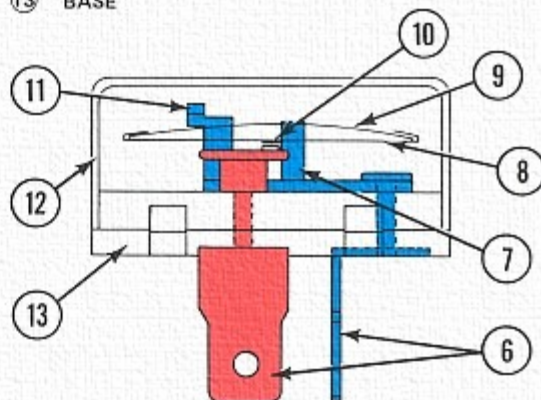

Fig. 98 Turn Signal Flasher Unit
An interior view of the flasher unit used in Honda motorcycles is shown in Fig. 98. The spring plate ⑨ can be likened to an archery bow, held near its center by the spring plate holder ⑦. The contact point strip ⑧ acts like a bowstring, pulling the edges of the spring plate downward. Current flowing through the contact point strip heats the strip, causing it to elongate, releasing tension on the spring plate. The ends of the spring plate then flip upward against a stop ⑪, raising the contact point strip and separating the contact points ⑩.